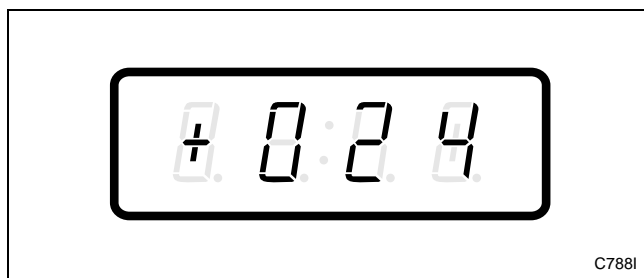

Figure 65
3. Press the DELICATES (+) or the COLD (-) keypad to scroll through the programmable options until “+024” appears in the VFD. Refer to *Figure 65*.